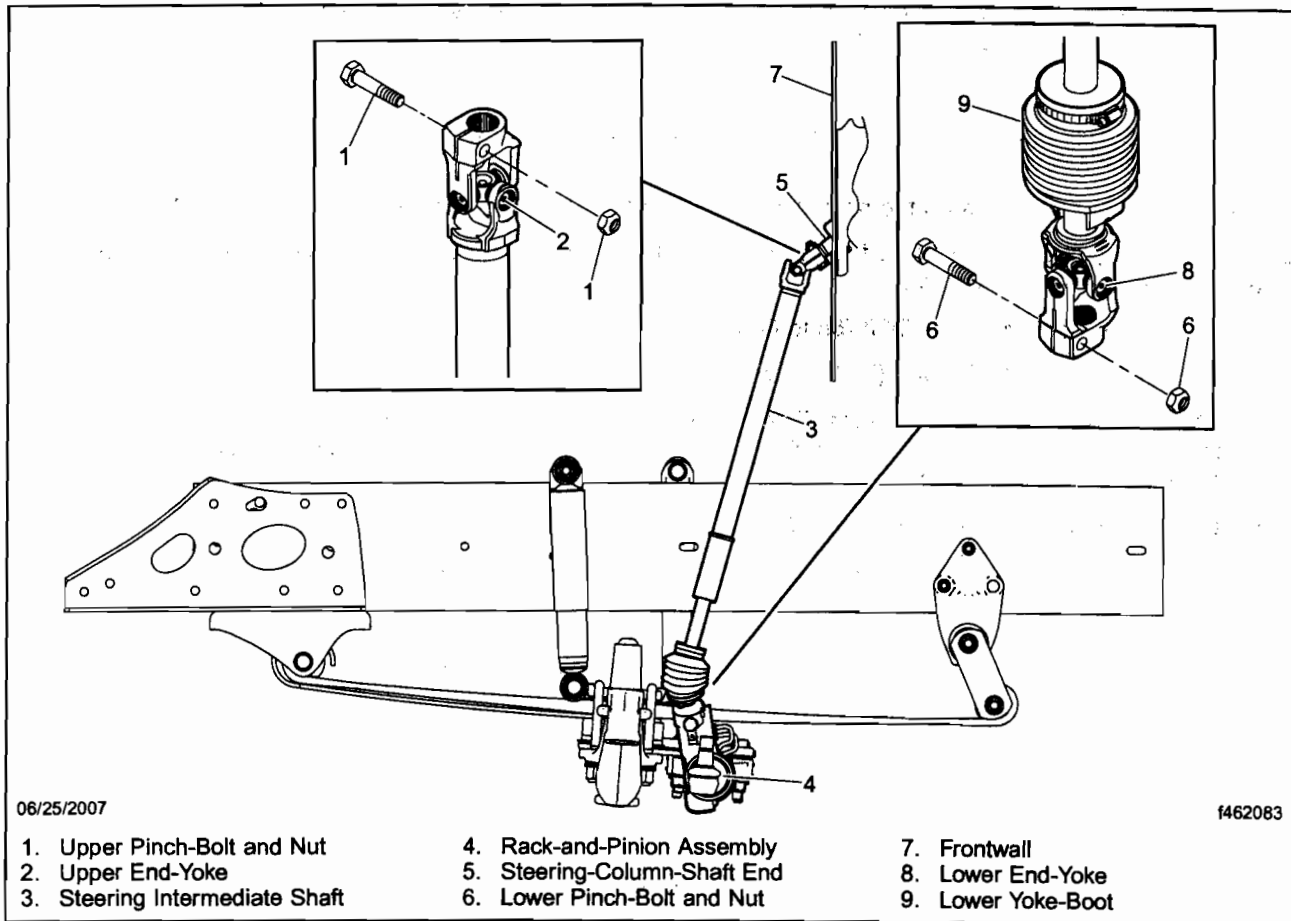

Fig. 6, Steering Intermediate Shaft, Side View
4. Remove and discard the lower pinch bolt and nut from the steering intermediate shaft. See Fig. 6.